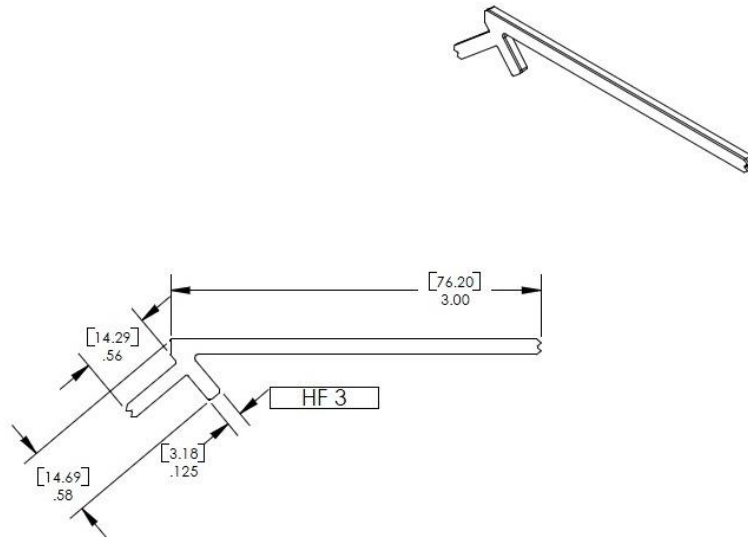

FIGURE 6 – HIDFAST FASTENER
5.6 Solid deck boards may be fastened using HIDfast HF3 hidden fasteners. One fastener is required at each support. See Figure 6. The outer edge of the first and last deck boards shall be fastened to each joist with one #8-9 TPI, 0.12 inch dia., and 2.5 inch long stainless steel trim screw.